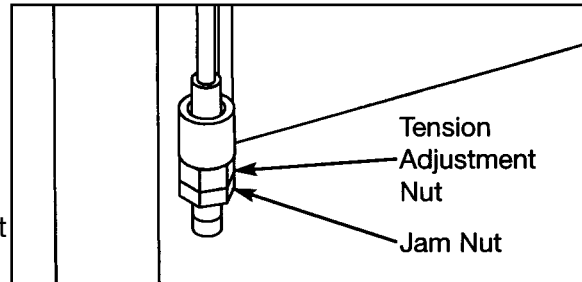

Figure 6
1. **Jam Nut Adjustment** - This type uses a jam nut and a tension adjustment nut at the cable cam end as the primary adjustment. The other end of the cable usually contains a roll pin adjustment. See Figures 6 and 8.